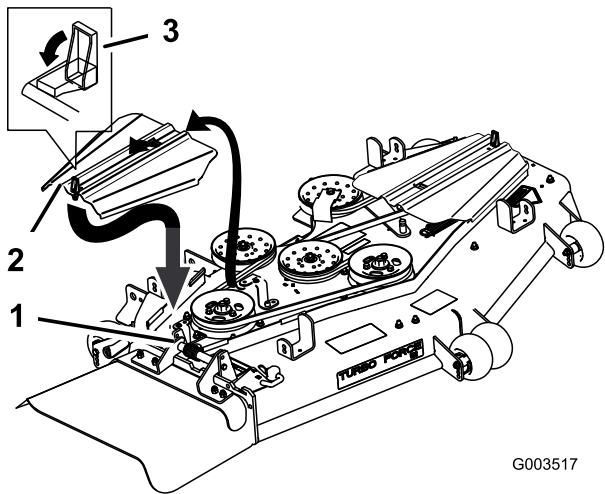

Figure 2
2. Unlatch and remove the right belt cover (Figure 2).